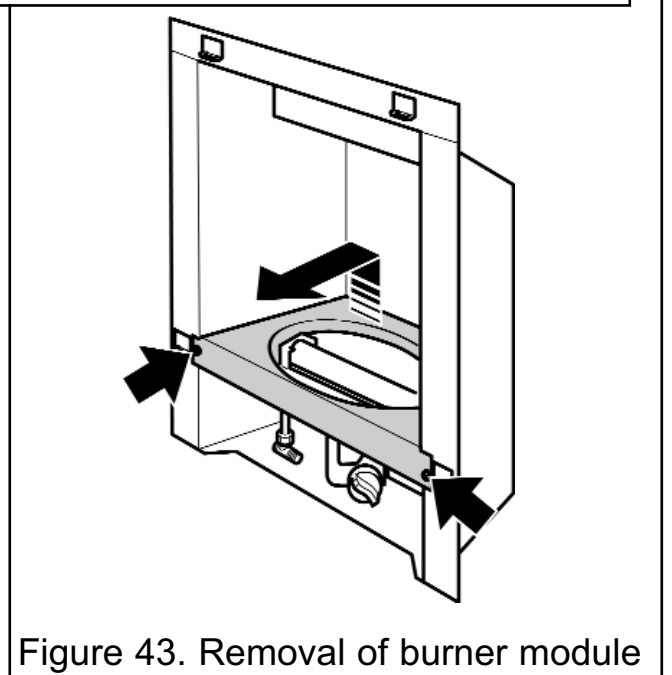

Figure 43. Removal of burner module
6. Remove the two screws to the side of the burner cover (See figure 43)
7. Detach the burner cover by lifting clear of the burner module (See figure 43). Place the burner cover in a safe place away from the work area.